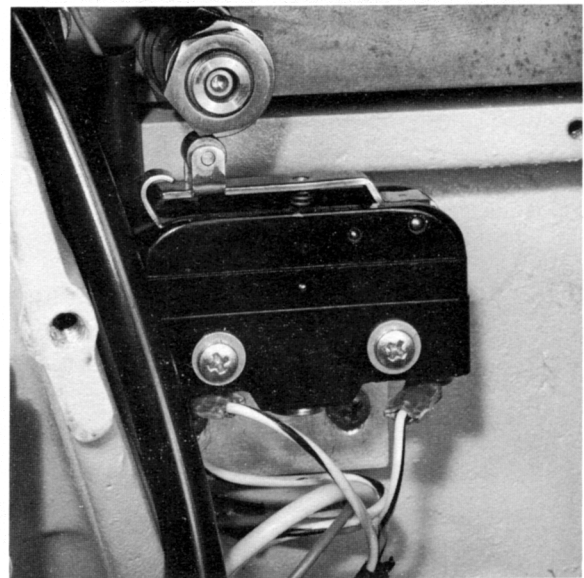

Figure 7-13
Step 7: The pack follower switch on the rear of the transport (Figure 7-13) should operate when the pack follower arm is resting on a 4-13/16 in. plus or minus 1/16 in. diameter tape pack. The operating point is adjusted by loosening the setscrew, on the end of the pack follower arm shaft and rotating the cam assembly which adjusts the microswitch to the designed point. The setscrew should be securely fastened when the adjustment is completed. Alternatively, the bracket on which the microswitch is mounted may be loosened and moved on its two slotted screw holes to achieve